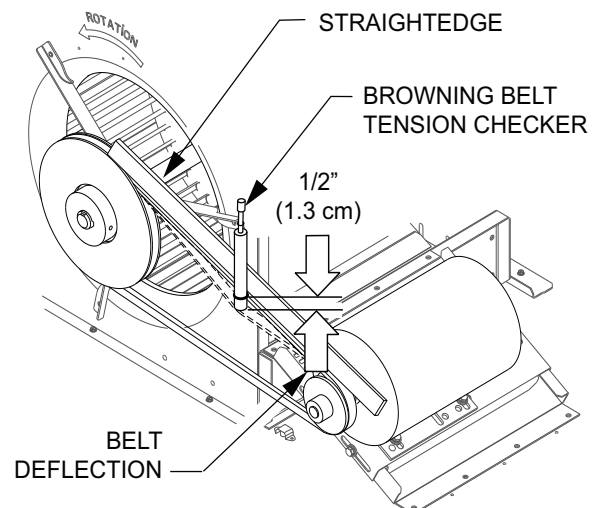

Fig. 5 — Checking Blower Motor Belt Tension
Check the belt condition and tension quarterly. Inspect the belt for signs of cracking, fraying or glazing along the inside surfaces. Check belt tension by using a spring-force tool, such as Browning's "Belt Tension Checker" (P/N: 1302546 or equivalent tool); tension should be 6 lb at a 5/8-in. (1.6 cm) deflection when measured at the centerline of the belt span. This point is at the center of the belt when measuring the distance between the motor shaft and the blower shaft. See Fig. 5.
9. Check the tension after a few hours of runtime and re-adjust as required. See Fig. 5.
4. Recheck belt tension. See Fig. 5.